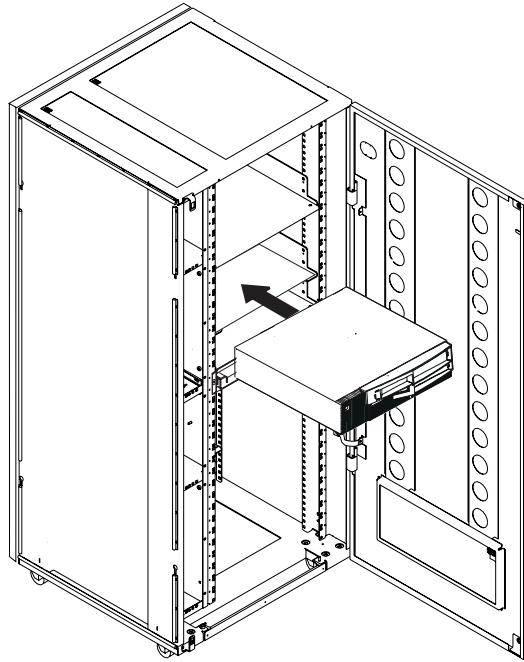

Figure 1-7. Installing the Service Processor Unit in the Controller Expansion (Front Side)
12. Slide the service processor unit on the brackets as shown in Figure 1-7 on page 1-13.